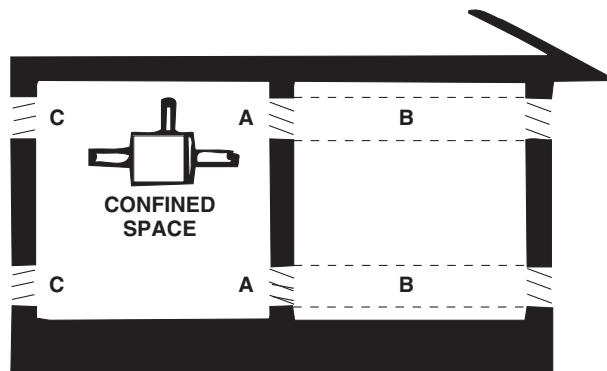

Figure 4. Confined Space Combustion Air Openings (Refer to Table 6)
- For confined space installation of standard units, provide openings (depending on the combustion air source) near the floor and ceiling for ventilation and air for combustion, as shown in Figure 4 and as listed in Table 6.
*See Figure 4.